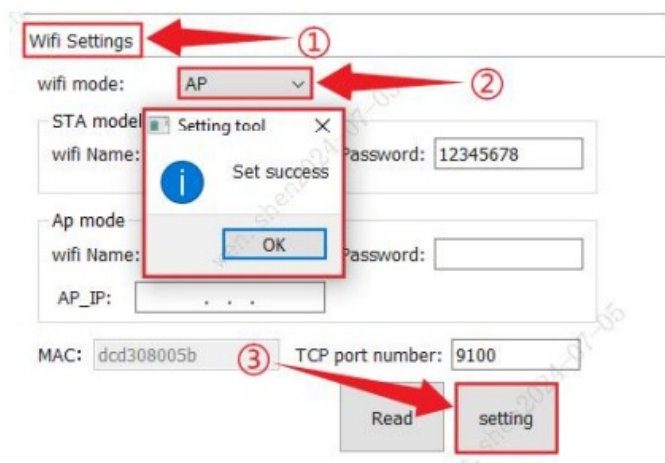

图 4 Fig.4
3. Once the AP IP address has been set, click on the “Read” button to obtain the AP IP address (shown in Figs.4 and 5).